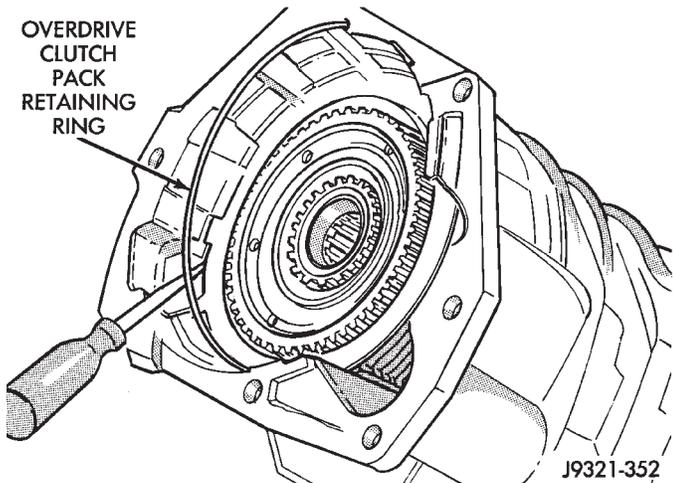

Fig. 213 Removing Overdrive Clutch Pack Retaining Ring
(1) Remove overdrive clutch pack wire retaining ring (Fig. 213).